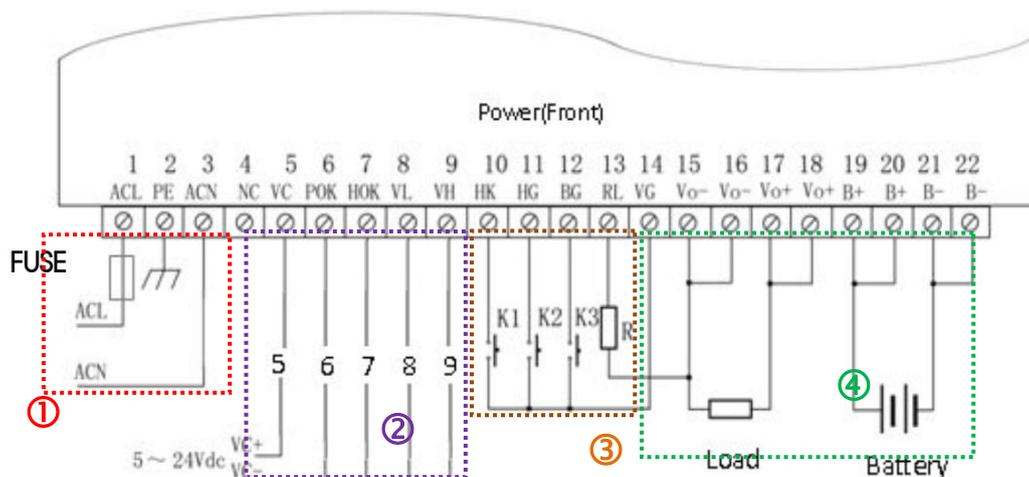
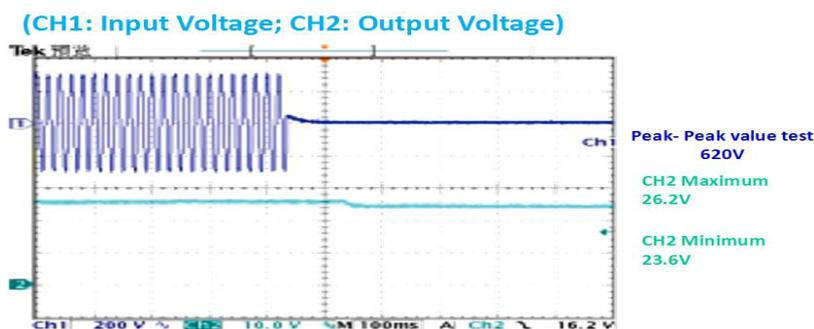

Figure 4-4: Typical Application Circuit of Battery Charging Power Supply
Figure 4-6: The Output UPS Voltage Waveform of Battery Charging Power Supply
There are four parts of external circuits, shown as figure 4-4. Gridline ① is the high voltage AC input connection. Gridline ② is the various types of alarm signal output terminals which is used to know the product state by detecting the variation of such voltage signals and for remote monitoring. Gridline ③ is the input terminal of the remote signal which is used to control K1/K2/K3 and for remote control operation. Gridline ④ is the connection of load output and energy storage batteries.
Test operation process -Complete the line connection according to figure 4-4(②③ can not access). It uses the differential high-voltage probe to detect the input AC voltage waveform in the input, and uses the oscilloscope probe to detect the voltage waveform across the product of output voltage V_{o+}/V_{o-} . Then enter the electric supply power off, on and other operations, and observe the load DC output voltage waveform. When the electric supply power off, the output DC voltage continues to output steadily. Take MBP500-2A27D27 as an example, the actual test UPS is shown as following figure 4-6.
Test operation process -Complete the line connection according to Figure 4-4(②③ can not access), it uses the oscilloscope probe to detect the voltage waveform across the product of output voltage V_{o+}/V_{o-} , and uses the differential high-voltage probe to detect the waveform of output load. The initial output load current is set to the typical load current, and then switch to the maximum load current(or less than the maximum value). The duration is 30s, and the output voltage is normal.
Test Operation Process(Activation)--Complete the line connection according to figure 4-4(②③ can not access), the normal charging state shown as below figures. Press the activation on button to enter the active state, discharge and activation indicator light on, shown as following figure *Activated discharge state*. Press the activation off button to end/exit the active stat, the discharge and activation indicator light off. In activation, if the battery storage is not enough, the output voltage drops to the under voltage protection point, shown as following figure *state of output under voltage*, and it will automatically exit the activation state after a while, then discharge and activation indicator light off and go back to the normal charge state.
Test Operation Process(Battery Control)--Complete the line connection according to figure 4-4(②③ can not access), disconnect the electric supply at normal operating state, the charging indicator lights off. And the battery uninterrupted power supply to the load, then the discharging indicator lights on. Next, press the battery end button(for about 5 seconds), the output load is off and the discharging indicator lights off. Press the battery start button(click), the load powers on and the discharging indicator lights off.
Design reference for remote functional application--Complete the line connection according to Figure 4-4, and wiring instructions are: K1 K2 K3 are user's CPU and other control's delay contacts.